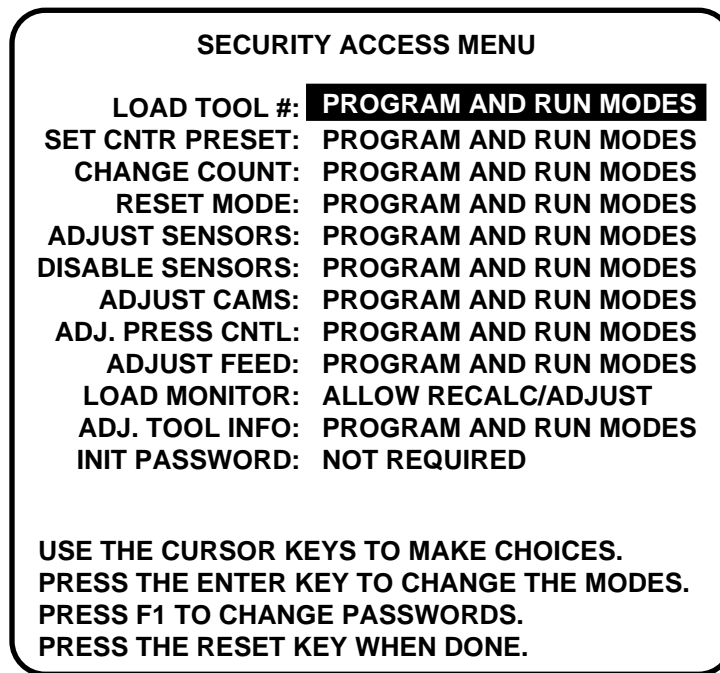

Figure 4-31. Security Access default settings
Use the Security access choice in the Initialization menu to prevent unauthorized access to SmartPAC settings. For most items shown in Figure 4-31 (later in this chapter) you can choose the level of security that meets your needs:
2. The display appears similar to Figure 4-31. Press **F1**.